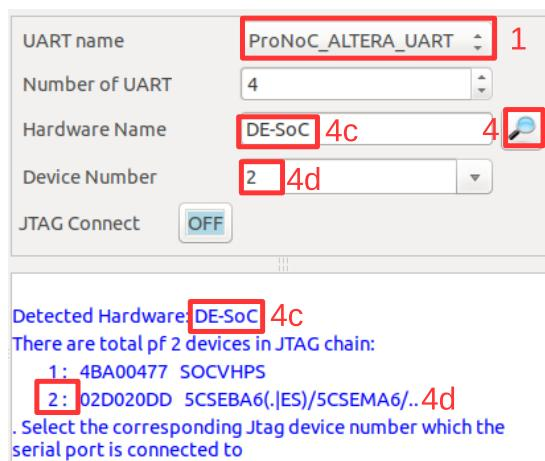

Figure 11.2: Altera FPGA configuration setting.
- (c) For Altera FPGAs (see Figure 11.2) set the `Hardware name`.
- (d) For Altera FPGAs you need to set the FPGA device target number in the JTAG chain. Figure 11.2 shows an example for DE10-Nano Altera FPGA board. The FPGA device is 5CSEBA6U23I7 which is the 2nd target in jtag chain.